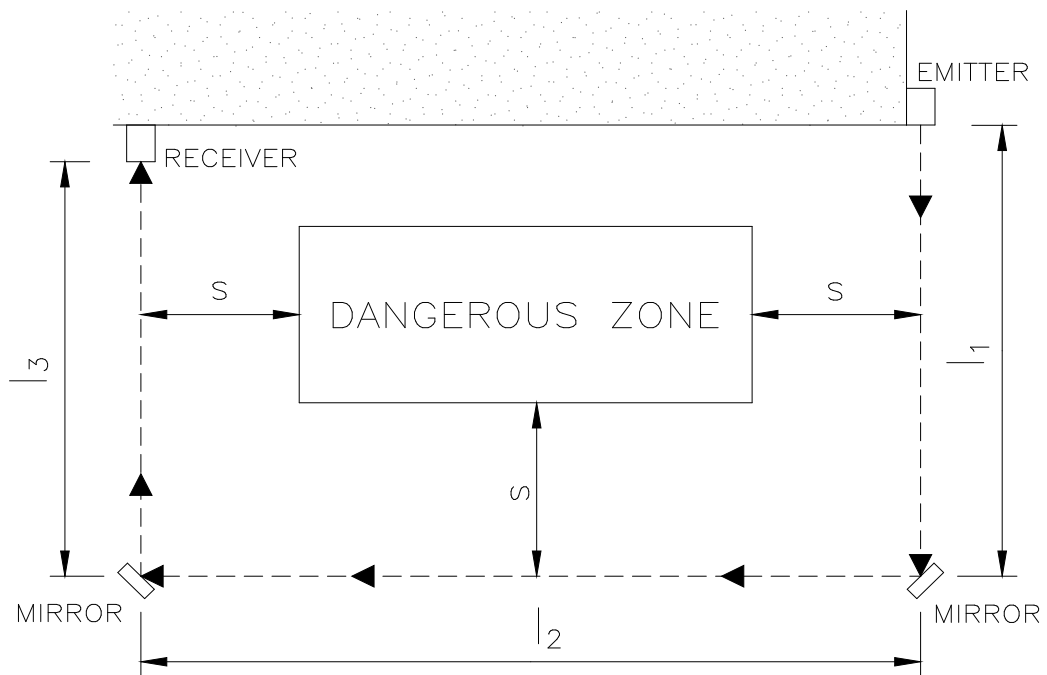

Figure 15
- Place the mirrors so as to ensure compliance with the minimum safety distance **S** (Figure 15) on each side from which the danger zone can be accessed.